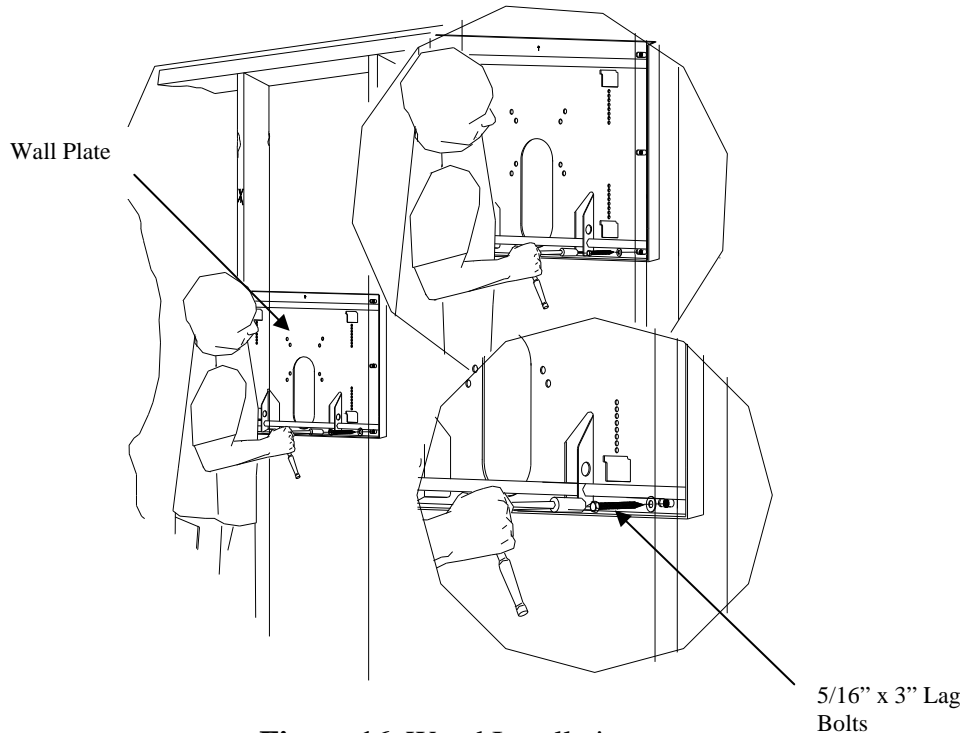

Figure 16. Wood Installation
13. Secure the plate using the 5/16" lag bolts and flat washers (Figure 16).